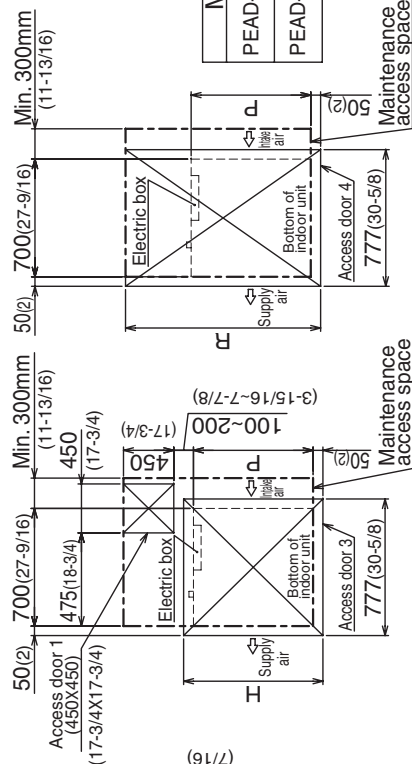

Fig.4 (Viewed from the direction of the arrow B)
- Create access door 1 diagonally below the electric box and access door 3 below the unit as shown in Fig.4.